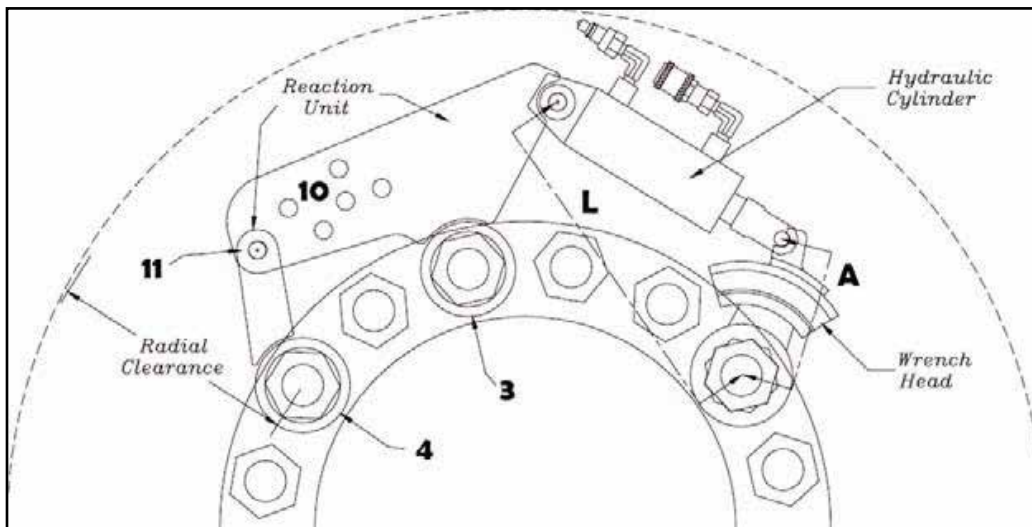

Figure 7
6. When the wrench and reaction unit are properly placed on the flange, the distance (L) from the center of the pin in the back clevis of the cylinder to the center of the bolt being turned should always be 16-5/16" on a Series 250-9.
7. Place the wrench head (1) on any bolt on the flange.
8. Place the ring of the reaction plate (3) around the bolt which would satisfy the following criteria:
- a. The distance (L) should be correct.
- b. The wrench head (1) should be able to rotate 60° without interfering with an adjacent bolt.
9. Place the ring on the reaction plate (3) around the bolt which would result in the proper set-up.
10. Place the ring of the reaction leg (4) around the bolt which would allow the hole (11) on the leg to align with any hole (10) on the plate. Insert the bolt (5) through the two holes and tighten the nut (6). See Figure 7.